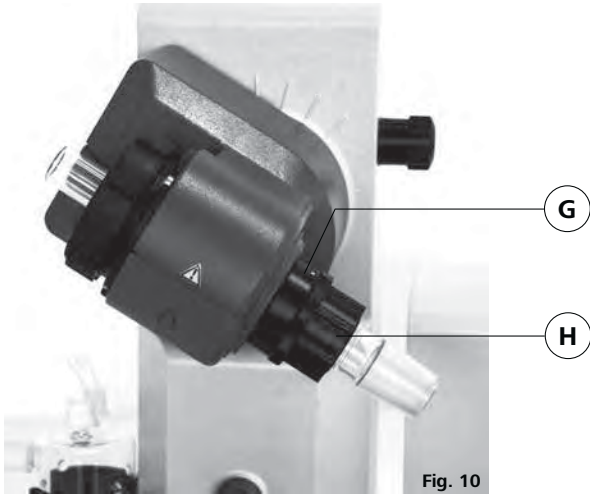

Fig. 10
- ☞ Then lock the locking device by turning it clockwise by 60° (Fig. 10).
The plastic screw nut (H) helps loosen tight-fitting piston ground-in connections (Fig. 10).
- ☞ Hold the locking device (G) and loosen the plastic screw nut (H).
- ☞ To do so, hold the tight-fitting evaporator piston and turn the plastic screw nut (H) until the evaporator piston neck.